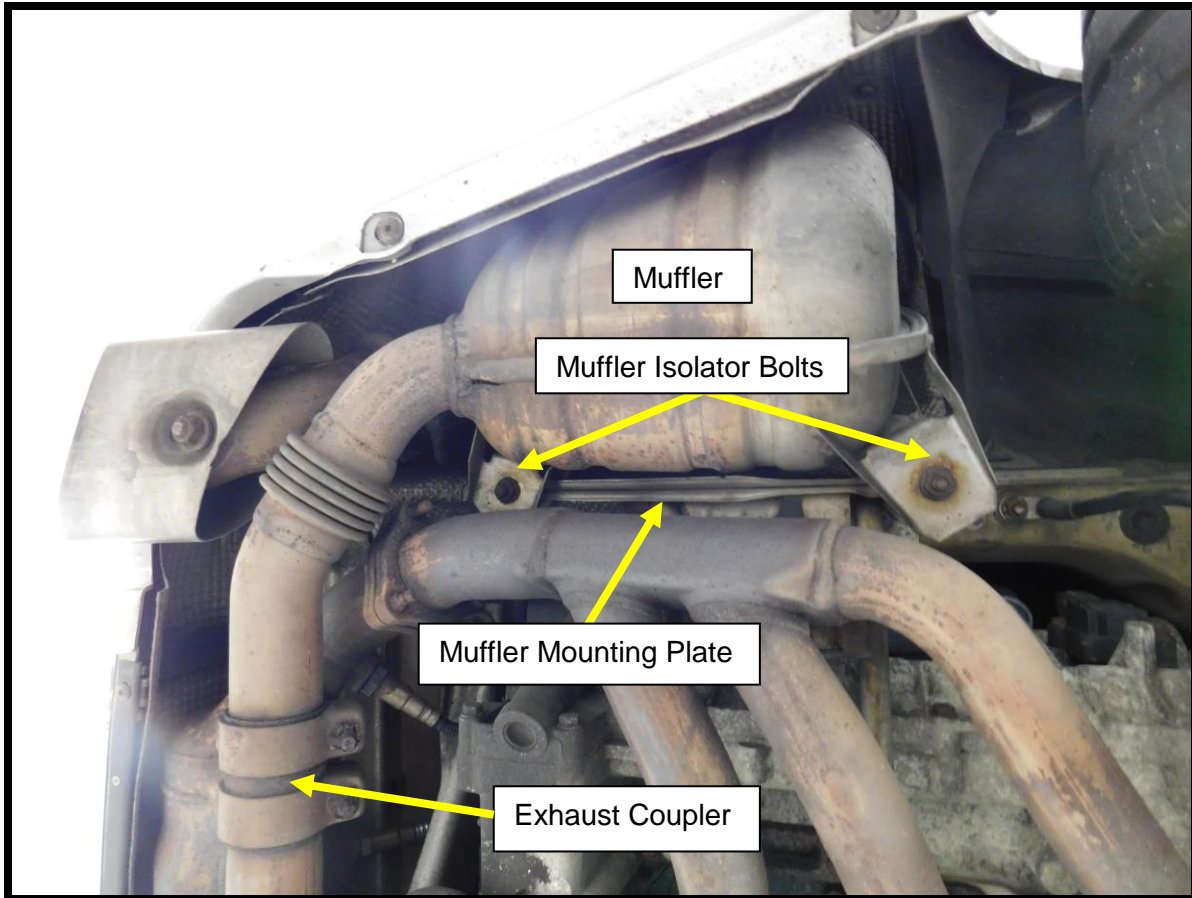

Figure 1
4. Remove the exhaust couplers from the pipe between the catalytic converter and the muffler. Loosen the bolts on the couplers and slide the couplers on to the catalytic converter pipe and off the muffler inlet pipe (**Figure 1**).
5. Remove the (x3) nuts from the muffler-mounting plate from behind the muffler (**Figure 1**).